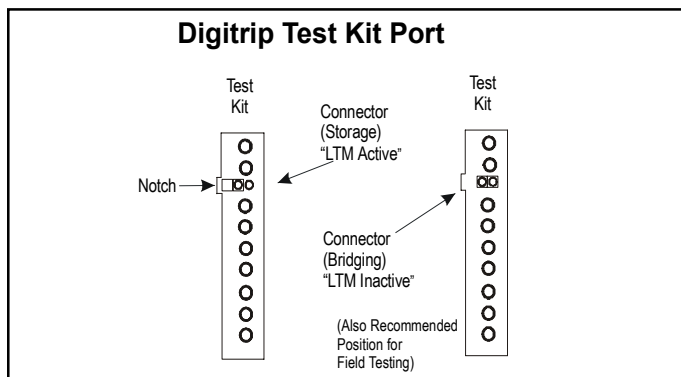

Figure 4.3 Long Time Memory (LTM) Jumper
**NOTE:** In certain applications, it may be desirable to disable the LTM function. Open the test port located at the lower left-hand front of the trip unit and use small, long-nose pliers to move the LTM jumper inside the test port (see Figure 4.3) to its Inactive position. (The LTM function can be enabled again at any time by moving the LTM jumper back to its original Active position.)
**BEFORE PLUGGING A TEST KIT INTO THE TEST PORT, PLACE THE LTM JUMPER IN THE INACTIVE POSITION (SEE FIGURE 4.3). AFTER TESTING, RETURN THE LTM JUMPER TO ITS ORIGINAL POSITION.**